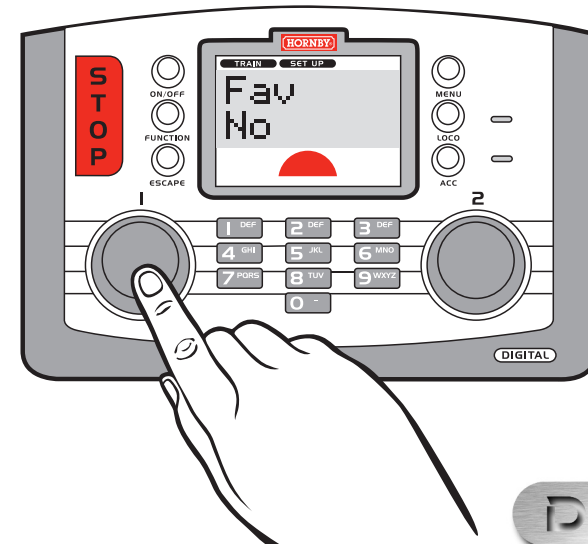

Fig. 1
8. Press **Controller 1**. Screen shows "**Fav No**". See Fig. 1.